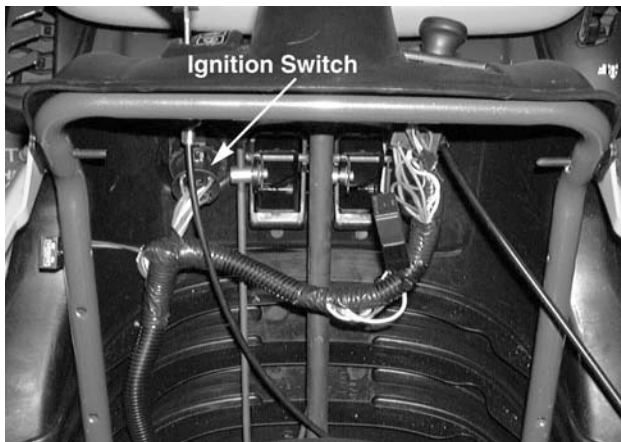

Figure 9-83
1. From behind the dash panel, locate the ignition switch and wiring harness connector. See Figure 9-83.